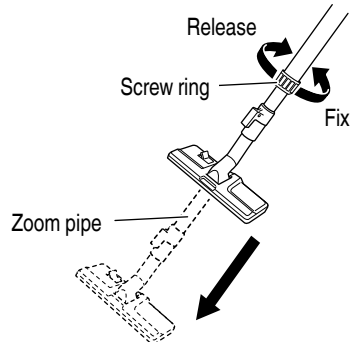

Fig. 17
- (2) Next, loosen the screw ring on the zoom pipe and adjust to the length appropriate to the task. After the adjustment, make sure the screw ring is secure by securely tightening it. **(Fig. 17)**